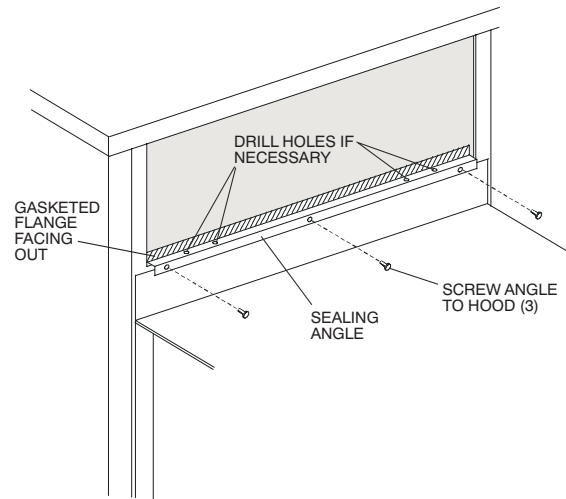

Fig. 2 - Install Sealing Angle
1. Attach the sealing angle to the top of the economizer hood using the 3 screws provided. Refer to Fig. 2. Note that the gasketing flange will be facing out.
5. Remove the hinged door and drill four (4) 11/64-in. holes where the marks are.
1. Attach the sealing angle to the top of the Power Exhaust hood using the 3 screws provided. Refer to Fig. 2. Note that the gasketing flange will be facing out.